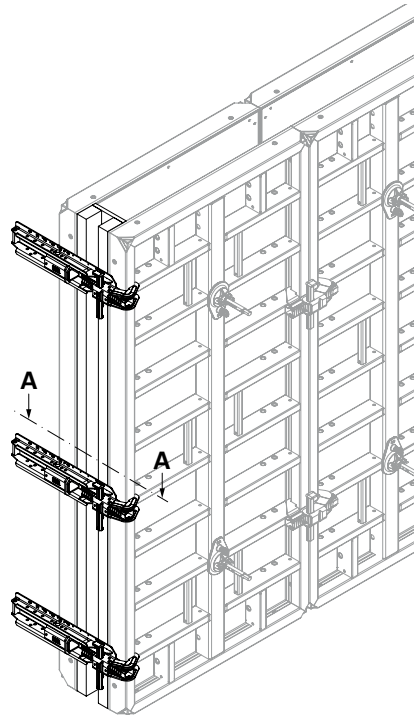

Fig. B10.01
- Perm. fresh concrete pressure 80 kN/m2 (Fig. B10.01 + B10.01b)